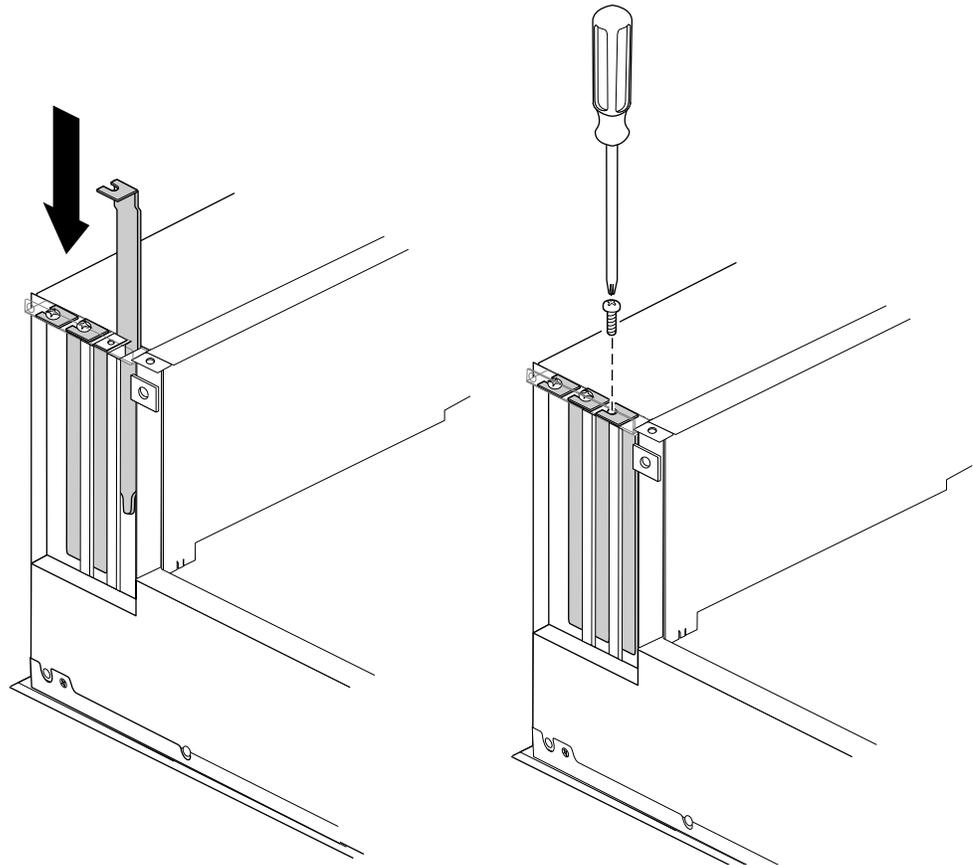

Figure 2-11 Replacing a PCI Option Board Blanking Plate and Screw
- Align the blanking plate and slide it in place, as shown in Figure 2-11.
- Attach the screw that secures the blanking plate to the Origin200 chassis, as shown in Figure 2-11.